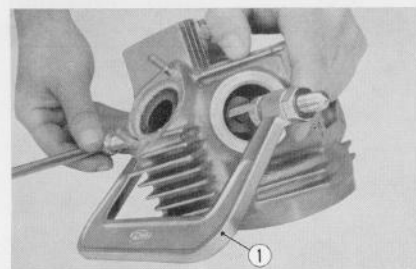

Fig. 3.17 Disassembling the valves ① Valve lifter
① Woodruff key ② Dowel pin hole
10. Disassemble the valves using a valve lifter ① (Tool No. 07031-20001). (Fig. 3.17)